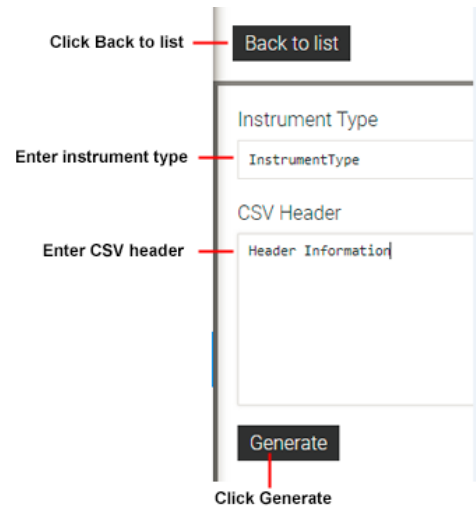

Figure 51 Create New Instrument/Alarm Screen
- 1 Click **Create new** (see Figure 50): The screen shown in Figure 51 appears.
- 3 Click **Generate** (Figure 51).